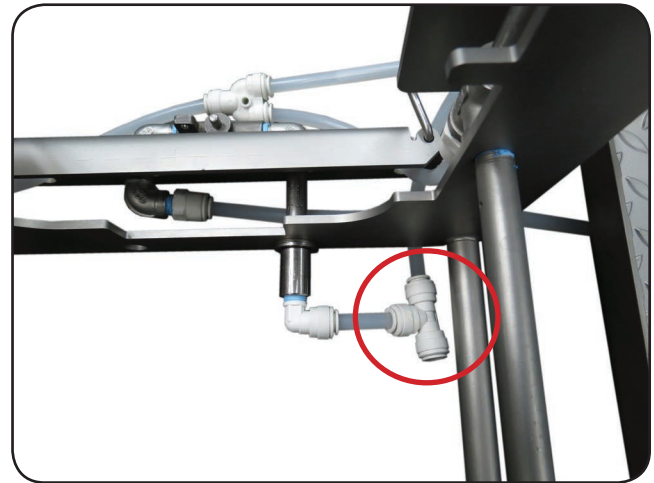

Figure 3
- Use 3/8" OD polyethylene tubing to connect water or chemical supply to solution inlet fitting on boot scrubber (Figure 3).